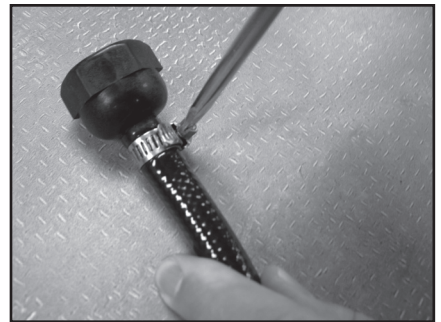

Figure 9
9. Loosen hose clamp and pull hose off of barb. Remove barb from nut. **(Figure 9)**